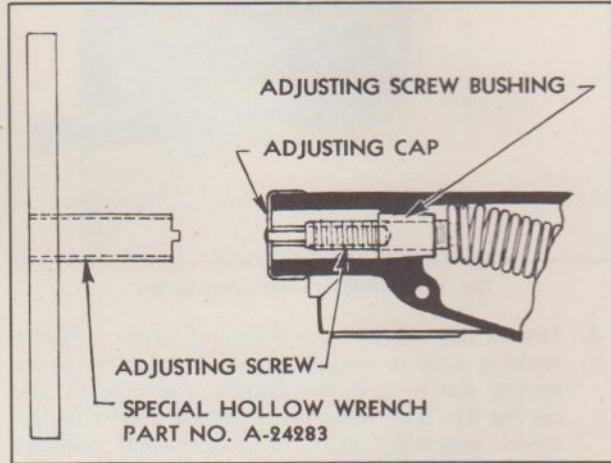

Fig. 18—Points of Governor Adjustment
In order to eliminate a surge or flat spot in engine operation, it is necessary to change the calibration of the governor spring tension by means of the adjusting screw bushing (Fig. 18). Unless absolutely
1. If the governor is too sensitive, or on the point of surging, remove seal. Remove adjusting cap by pulling straight out (do not unscrew from adjusting screw). Place the special hollow wrench, Handy governor part No. A-24283, Fig. 18, in the slots of the adjusting screw bushing. (This hollow wrench is obtainable from the King-Seeley Corporation, Ann Arbor, Michigan.) Turn adjusting screw bushing clockwise  $\frac{1}{4}$  turn. Replace adjusting cap and with it, turn adjusting screw clockwise one full turn. Repeat this adjustment until desired regulation is obtained.